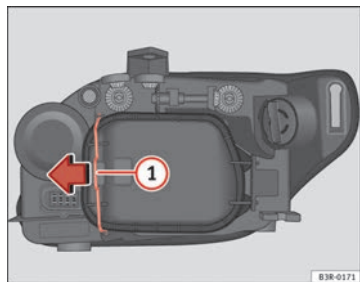

Fig. 213 Side light bulb (outside of vehicle)
- Move the brace ⇒ Fig. 213 ① in the direction of the arrow and remove the rigid cover, separating the brace side and then removing the two tabs from the other end of the cover.